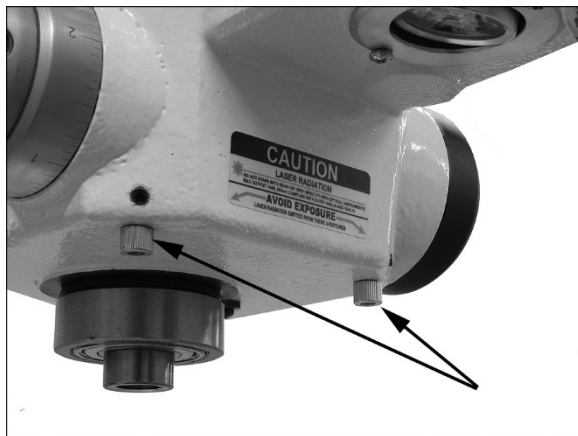
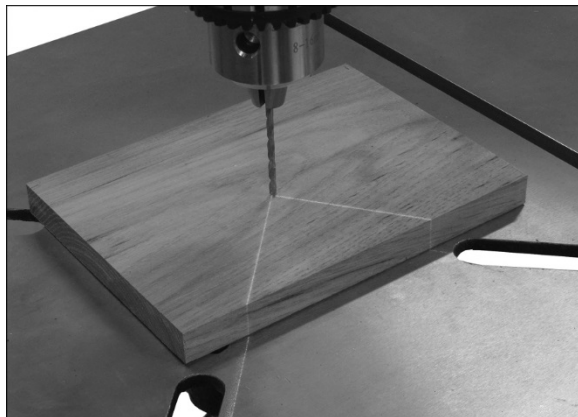

Figure 26
Figure 27
5. Use a set of pliers to *gently* turn either of the knobs (Figure 26) until the laser lines form crosshairs exactly over the perforation in the board, as shown in Figure 27.